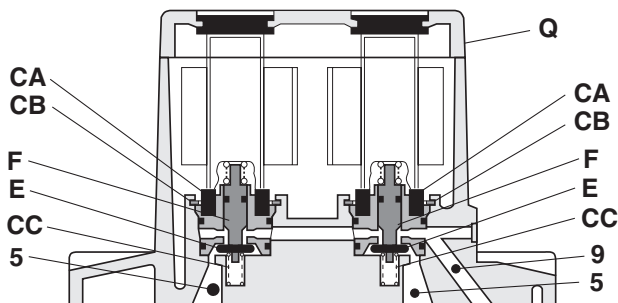

Figure 8 – Cross-section of Pilot Section
Loose pilot cover Q (Figure 8). A loose pilot cover can give the symptoms of a defective solenoid because it prevents full travel of one of both pilot valves. However, the valve can operate normally if manual actuation is used. This is because the gap between solenoid and pilot valve is closed by the pressure of manual actuation. If loose, tighten the cover and check for normal valve operation.
1. Remove pilot cover “Q” (Figure 8).